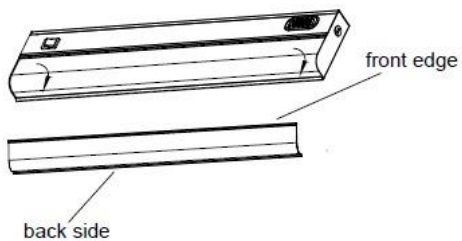

Fig.1
1. Carefully remove the diffuser by squeezing the front edge with forefingers while holding the back side with thumbs (Fig. 1).
1. Carefully remove the diffuser by squeezing the front edge with forefingers while holding the back side with thumbs (Fig. 1).  Fig.1	2. Open the wireway cover by gently pressing inwards to release the cover from the two tabs on the housing (Fig. 2).  Fig.2